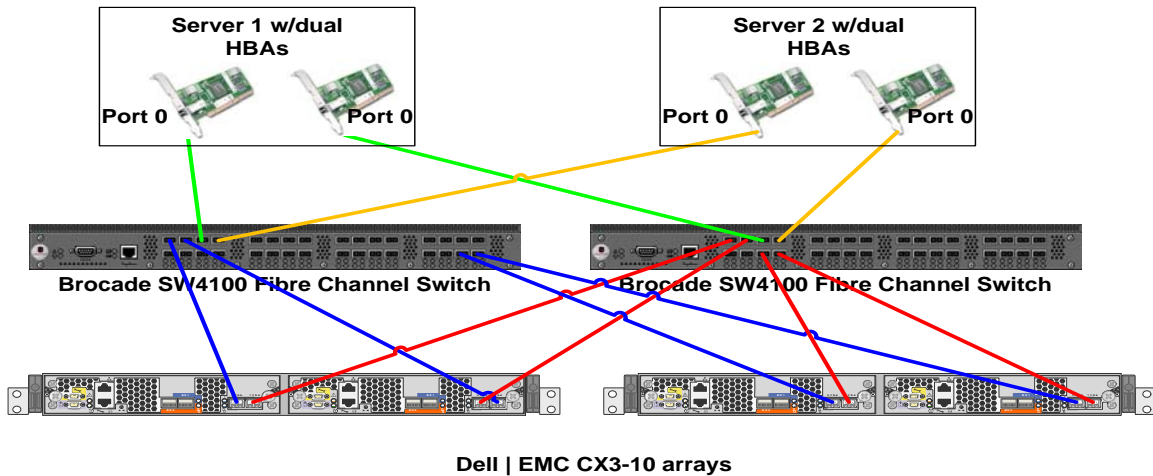

Figure 3 - Cabling a Two-Block Oracle Optimized Warehouse
Figure 3 illustrates the fiber cabling of the two-building-block PowerEdge cluster hosting Oracle Database 10g and the CX3 storage array where the data resides. As mentioned in the Architectural Overview section above, each CX3 storage array has two storage processors (SP), called SPA and SPB, which can access all of the disks in the system and provide the physical storage capacity for the Oracle RAC database. Before data can be stored, the CX3 physical disks must be configured into components, known as RAID groups and LUNs. A RAID group is a set of physical disks that are logically grouped together. Each RAID group can be divided into one or more LUNs, which are logical entities that the server uses to store data. The RAID level of a RAID group is determined when binding the first LUN within the RAID group. It is recommended binding one LUN per RAID group for database workloads to avoid disk spindle contention.¹ For details on LUN configuration, please refer to the “Configuring LUNs” section below.
As illustrated in Figure 3, it is recommended that two HBAs be installed on each of the PowerEdge servers hosting the Oracle 10g RAC database because in the event of an HBA failure in a single HBA fabric environment, the host will lose access to the storage until the failed HBA is physically replaced. Using dual HBAs provides redundant links to the CX3 storage array.